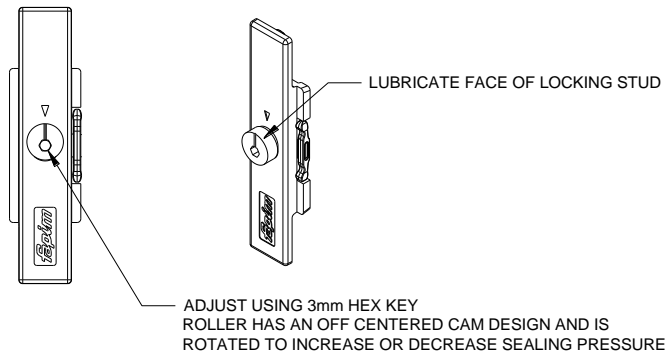

Figure 28
- Apply a light coat of oil as required to the face of the lock stud (Figure 28), care must be taken when applying oil as it may stain other components of the door system.